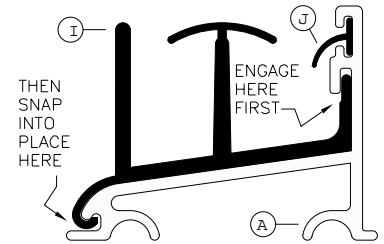

figure 3
3. To insure proper operation, Track Guide (I) must be centered on Sill (A) when installed. Located center of Sill. Apply small dab of caulking to underside of Track Guide, then snap Track Guide onto Sill as shown in figure 3.